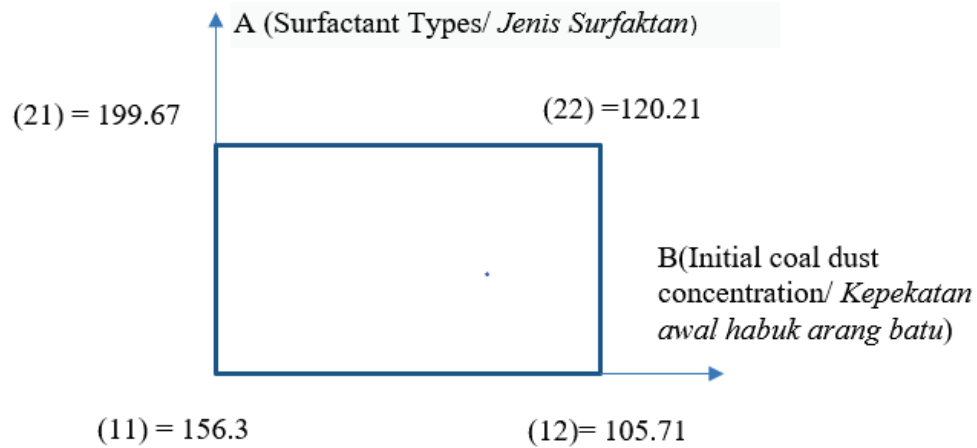

Figure 5.1: Geometry Design for Suppression Effectiveness
- (5). An engineer is identifying a surfactant that can reduce the coal dust effectively. The problem of the research was to evaluate the effects of types of surfactant and initial coal dust concentration on the suppression effectiveness (Y) as a response. The two inputs of interest are the Sodium Dodecyl Sulfate (SDS) surfactant with (1% and 2%) and the initial coal dust concentration (13.35 and 101.62). All  $2^2$  experiments were conducted in an air-conditioned laboratory, which is kept at a constant temperature and the constant solution level is kept between 0.05-0.1 wt.%. The Geometry Design for  $2^2$  experiments is given in Figure 5.1.
*Seorang jurutera sedang mengenal pasti surfaktan yang boleh mengurangkan habuk arang batu dengan berkesan. Masalah di dalam penyelidikan ini adalah untuk menilai kesan jenis surfaktan dan kepekatan awal habuk arang batu terhadap keberkesanan penindasan (Y) sebagai tindak balas. Dua input yang menarik ialah surfaktan Sodium Dodekil Sulfat (SDS) dengan (1% dan 2%) dan kepekatan*